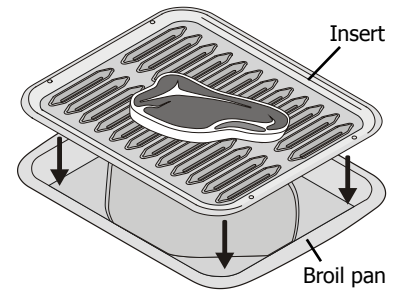

Fig. 2
3. When using 2 oven racks at the same time, place in positions 3 & 5 for best results (See Fig. 2).